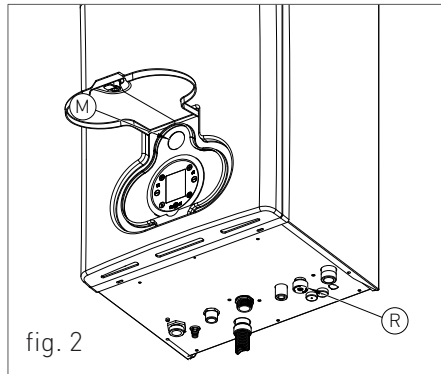

fig. 2
3. open the filling tap "R" (fig. 2);
5. use pressure gauge "M" (fig. 2) to make sure that the system pressure reaches 1.2 bar (fig. 4);
6. after performing this operation, make sure that the filling tap "R" (fig. 2) is properly closed.